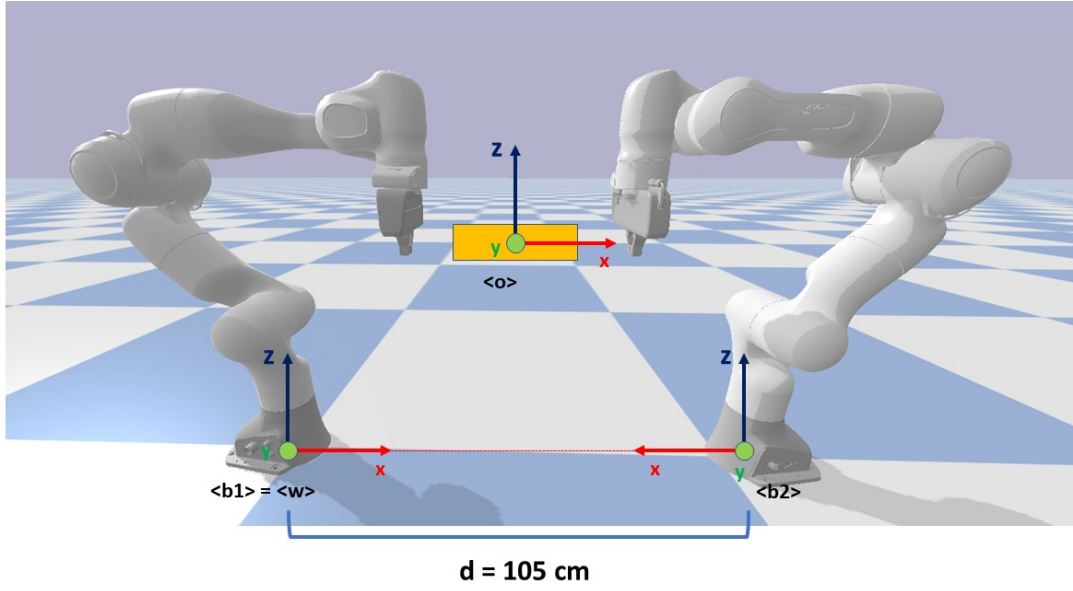

Figure 3: Basic transformation matrices
- The right arm base is rotated of π w.r.t. z-axis and is positioned 1.05 meters along the x-axis see figure 3